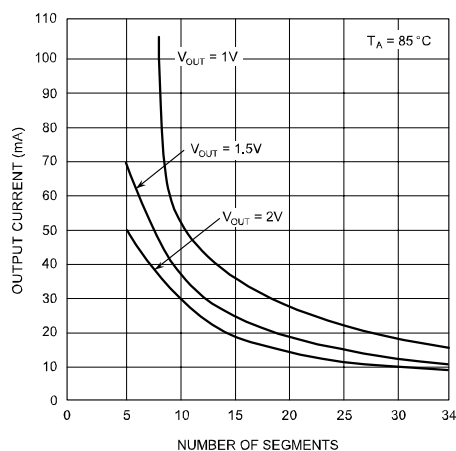

Figure 7.
- See Figures 7, 8 and 9 for recommended operating conditions and limits. Absolute maximum for each output should be limited to 40mA.
The above equation was used to plot Figures 7–9.